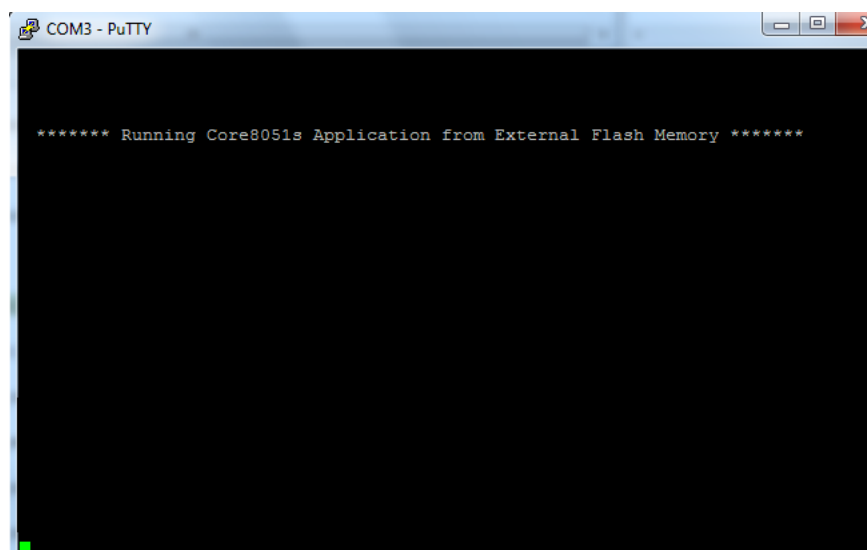

Figure 23 • Debug Code
15. Choose **Step Over** from the **Run** menu until it reaches the 115 line of main.c. The “Running Core8051s Application from External Flash Memory” message is displayed as shown in Figure 23.